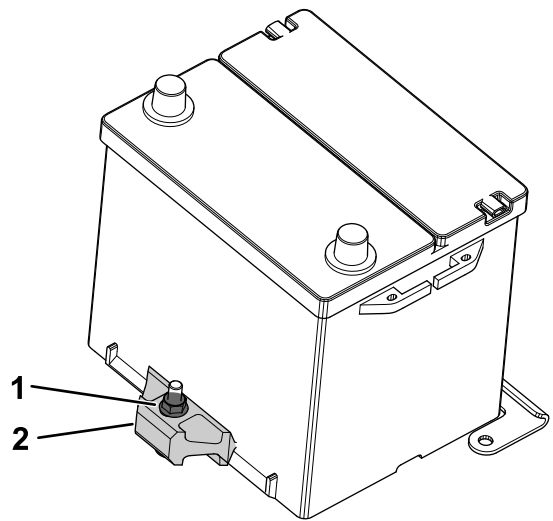

Figure 108
2. Loosen the locknut securing the battery retainer and remove the battery from the tray (Figure 108).
1. Place the battery on the battery tray and secure the battery to the retainer by tightening the locknut (Figure 108).